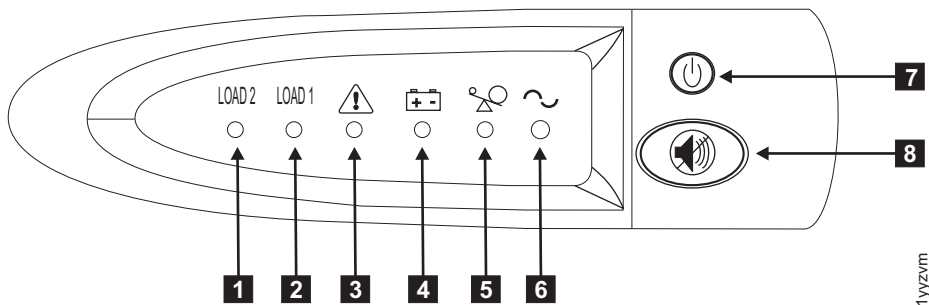

Figure 17. 2145 UPS-1U front-panel assembly
8. Press and hold the on/off button (**7** in Figure 17 on page 24) for approximately five seconds. You might need a pointed device, such as a